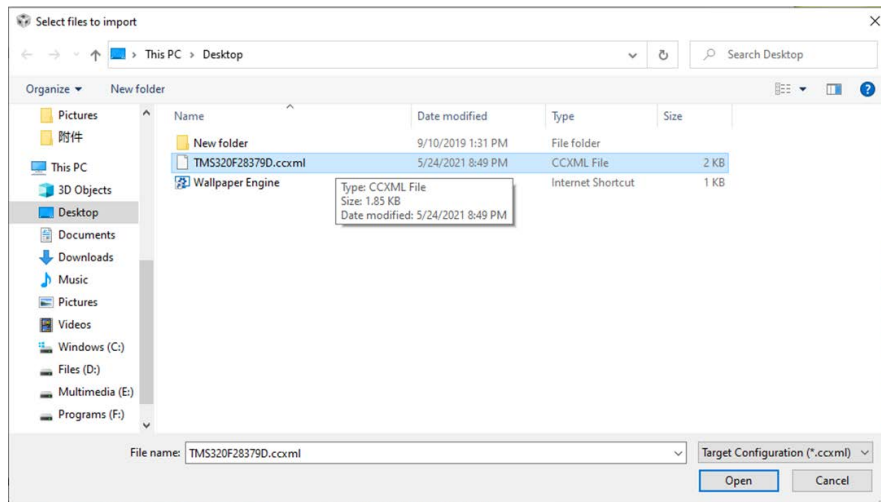

Figure 7: Import Target Configuration
4. Import the provided target configuration file by selecting it and clicking the **Open** button (Figure 7).